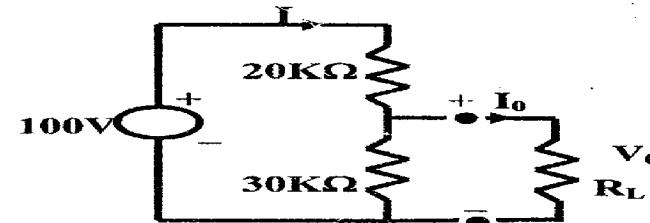

Figure 2
- 2) Consider the circuit shown in fig.2.**